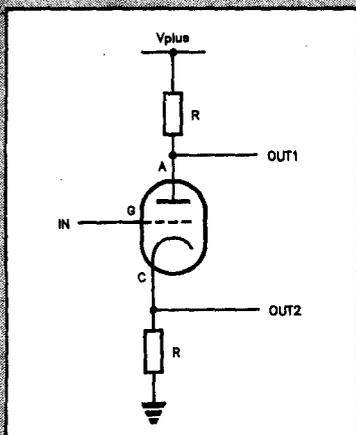
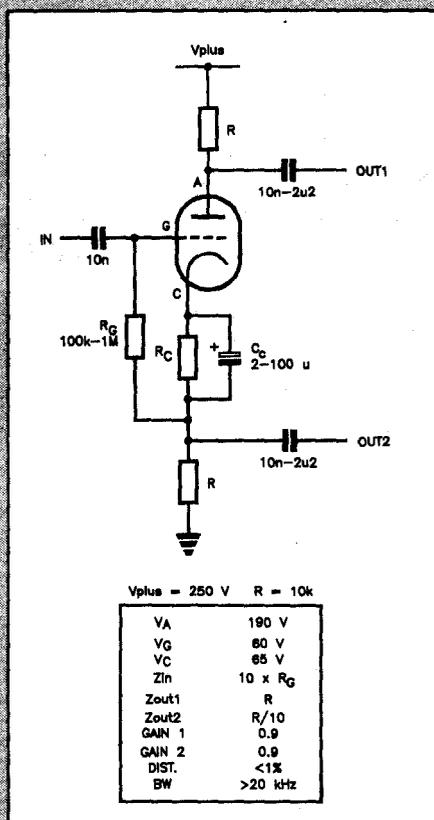

Figure 9.1. Single valve phase splitter.
Figure 9.2. An ac coupled phase splitter.
To keep costs down, the commonest valve phase splitter uses a single triode. It is a derivative of the valve current amplifier. The dc coupled circuit is shown in Figure 9.1. The voltage at the grid has to be about  $V_{plus}/3$ . In the ac coupled version shown in Figure 9.2 this voltage is set by the ratio of  $R$  to  $R_C$  and the characteristics of the valve. The output impedance at the anode (A) is  $R$  but that